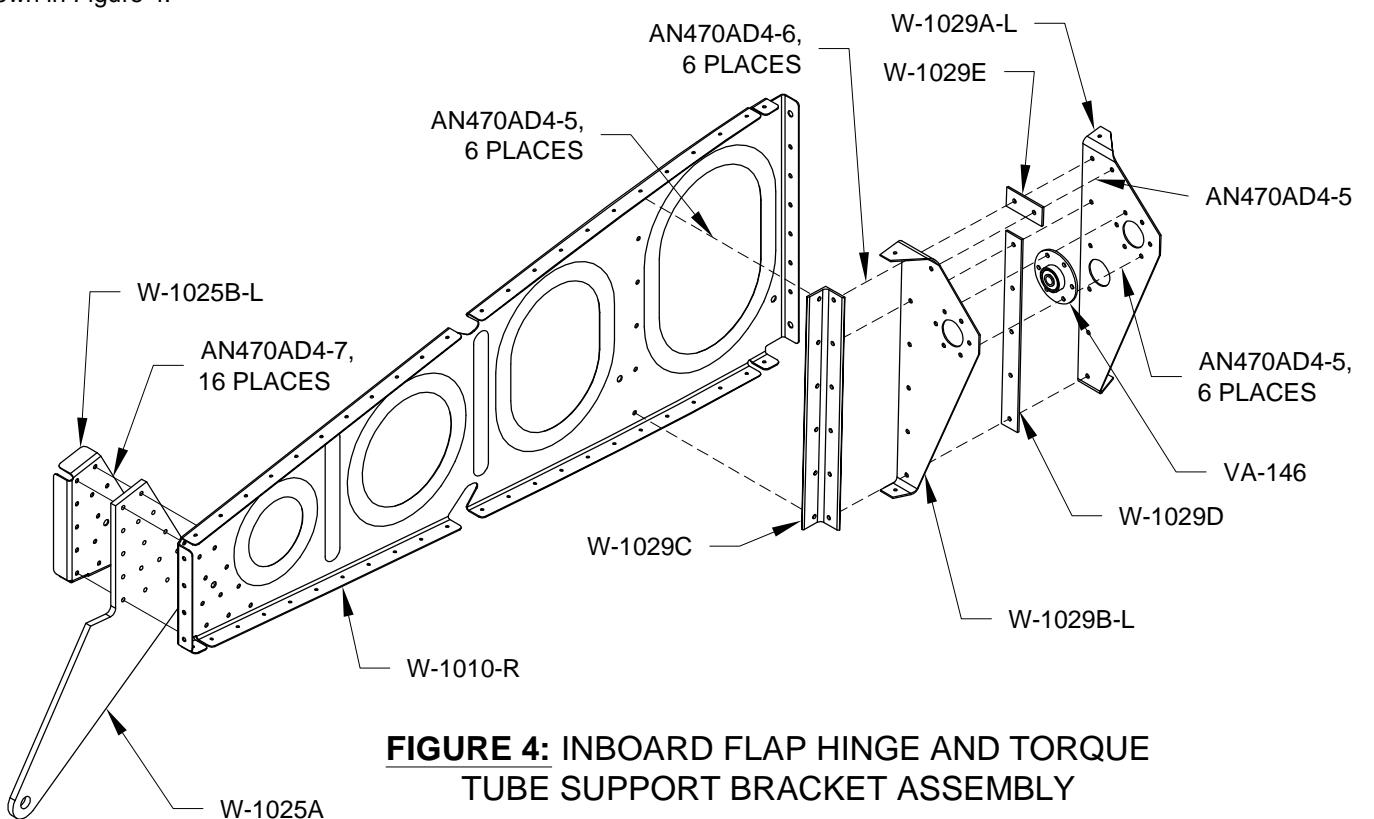

FIGURE 4: INBOARD FLAP HINGE AND TORQUE TUBE SUPPORT BRACKET ASSEMBLY
Step 6: Cleco and rivet the VA-146 Flange Bearing, W-1029A-L and W-1029B-L Torque Tube Support Brackets, W-1029C Angle, W-1029D and W-1029E Spacers together as shown in Figure 4.
Step 7: Cleco and rivet the W-1029C Angle and support bracket assembly to the web of the W-1010-R Inboard Wing Rib as shown in Figure 4.
Step 8: Cleco and rivet the W-1025B-L Flap Hinge Rib and W-1025A Flap Hinge Bracket to the W-1010-R Inboard Wing Rib as shown in Figure 4.